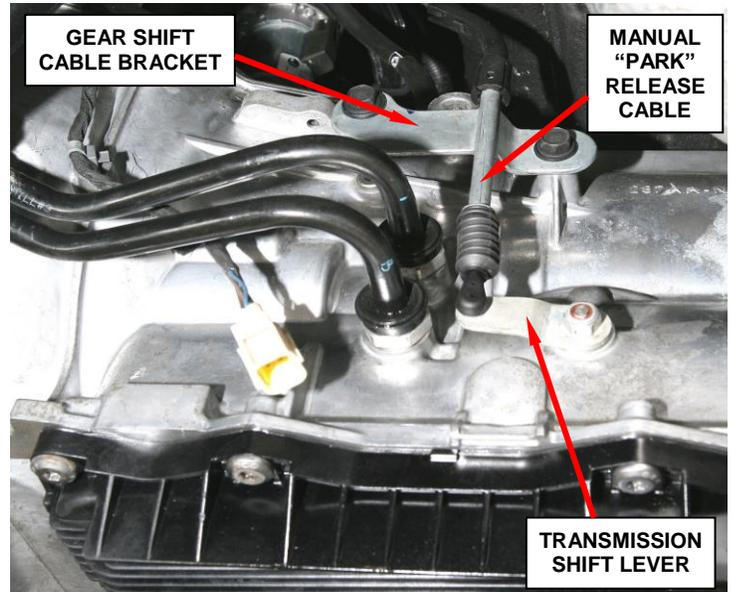

Figure 12 – Gear Shift Linkage
13. Disconnect the manual “Park” release cable (Figure 12).